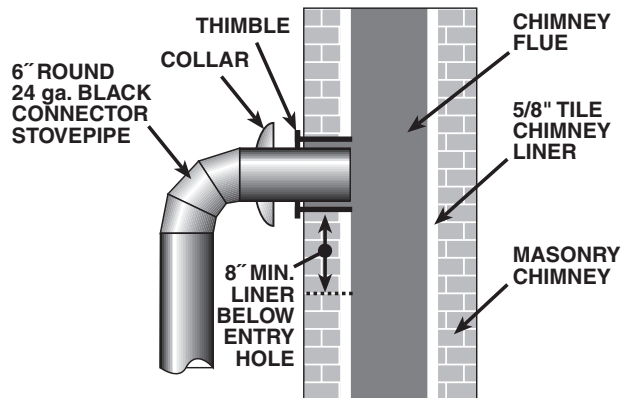

Figure 11 - Masonry Chimney Connection
Before using an existing masonry chimney, clean the chimney, inspect the flue liner and make any repairs needed to be sure it is safe to use. Make repairs before attaching the stove. The connector stove pipe and fittings you will need to connect directly to a code approved, lined masonry chimney are shown in figure 11.
2. Install a fire clay (5/8”/16mm minimum thickness) thimble. Make sure the thimble is flush with the inner surface of the chimney liner and does not protrude into the flue (see figure 11 on page 9).